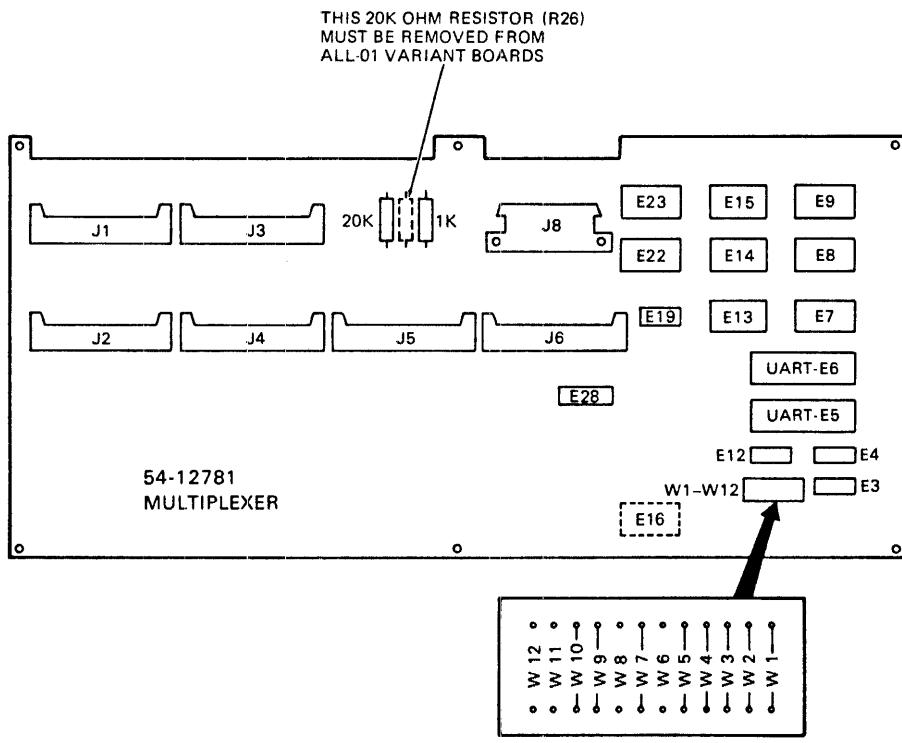

Figure 6-7 54-12781 Jumper Configuration and Layout
Refer to Figure 6-7.
- a. Use Figure 6-7 to examine the 54-12781 and determine that jumpers W1 through W12 are IN or OUT as indicated.
- (1) Use Figure 6-7 to determine location E16.
- (2) If the board is a 54-12781-00, there won't be any chip at E16.
- (3) If the board is a 54-12781-01, there will be a 1489L chip at E16.
Refer to Figure 6-7 and Tables 6-5, 6-6, and 6-7.